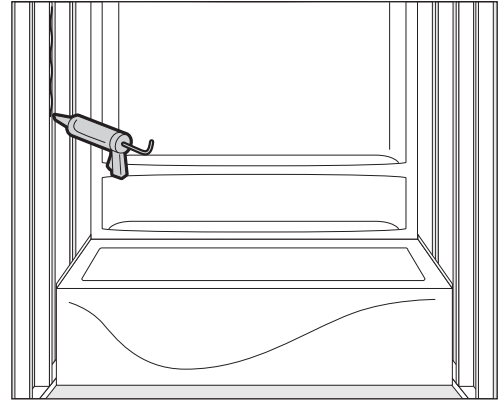

FIGURE 6. Apply adhesive.
- Apply adhesive to each stud for faucet side panel and push side panel firmly into place. (Fig. 6)